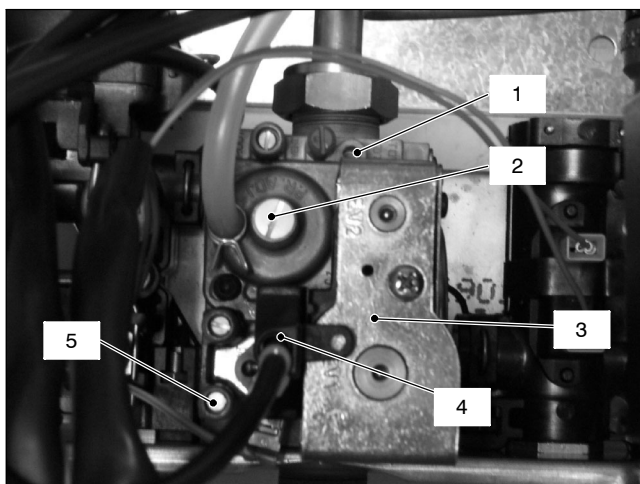

Fig. 11.2
11.2 Description of the parts (Fig. 11.2)
- 3 Loosen the internal screw on the Inlet Pressure Test Point 5 (Fig. 11.2) of the Gas valve and connect a pressure gauge using a suitable hose.
- 10 Disconnect the pressure gauge and close the Inlet Pressure Test Point 5 (Fig. 11.2).
- 21 Read the CO₂ % value. It should be between 9,0 and 9,8 % (natural gas G20) or between 10,0 and 11,0 % (LPG G31). To adjust the CO₂ % value remove the brass plug by unscrewing it and rotate the Allen key screw \varnothing 4 mm (2 – Fig. 11.2) (by rotating it clockwise the CO₂ % increases).
- 24 Read the CO₂ % value. It should be between 9,0 and 9,8 % (natural gas G20) or between 10,0 and 11,0 % (LPG G31). To adjust the CO₂ % value rotate screw (1 – Fig. 11.2) (by rotating it clockwise the CO₂ % increases).
- 27 After adjustment fit the protective brass plug (2, Fig. 11.2).
- 2 Disconnect the electrical connector 4 (Fig. 11.2).